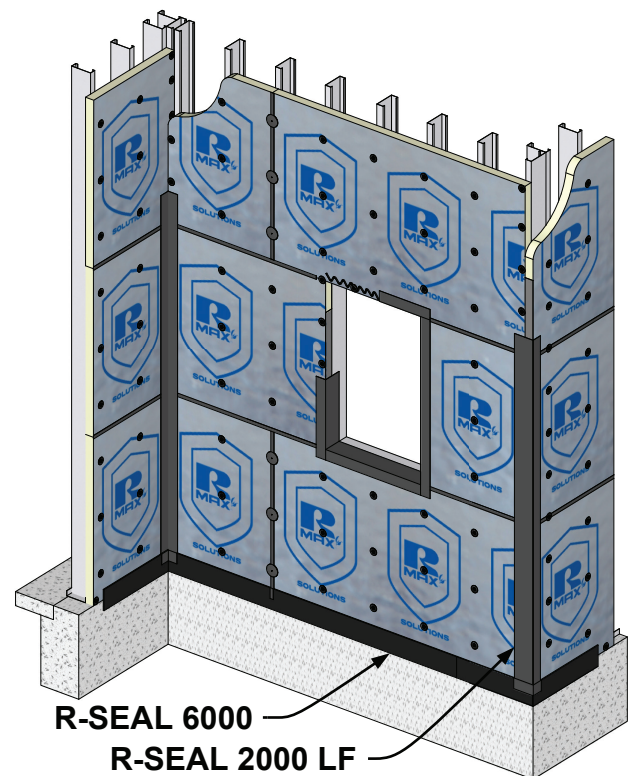

Figure 1
- J. For changes in direction (corners, surface offsets, etc.) the boards should tightly fit in an overlap. **Reference Figure 1 and 9.**